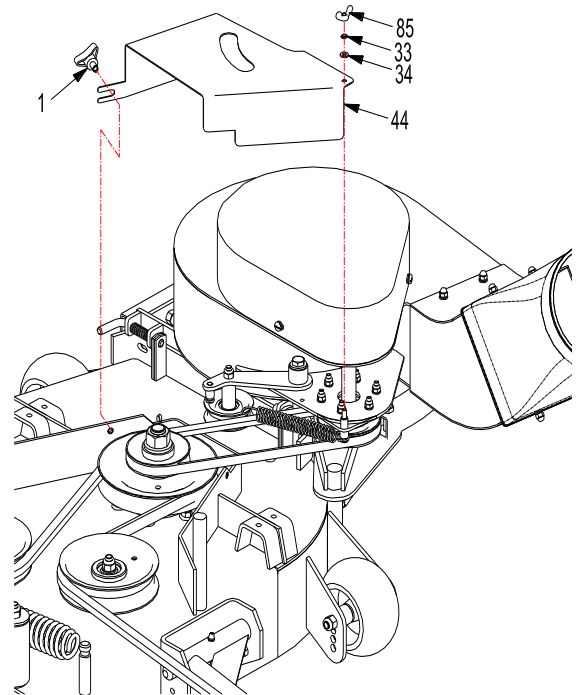

FIG 12
3.7 Installing Belt Cover Assembly (FIG 12)